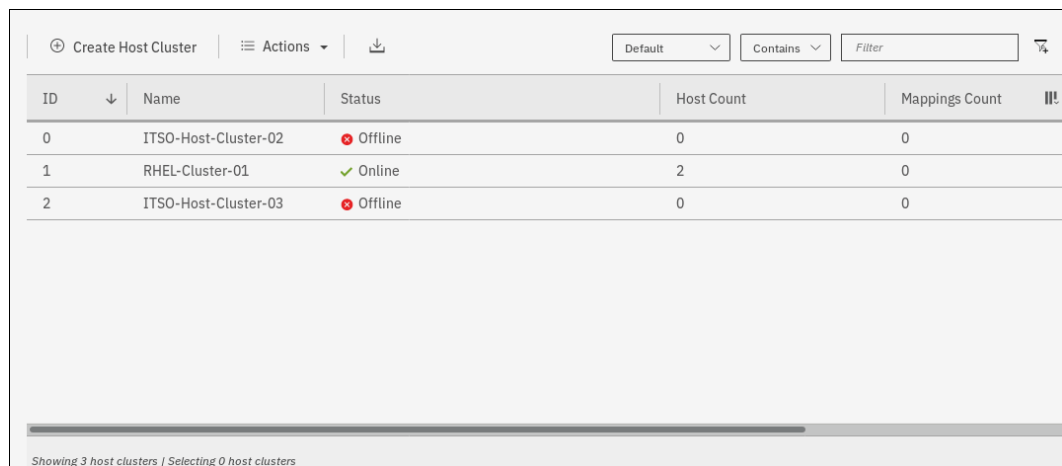

Figure 5-96 Host Clusters
1. From the **Host Clusters** window, select the wanted host cluster, as shown in Figure 5-96.